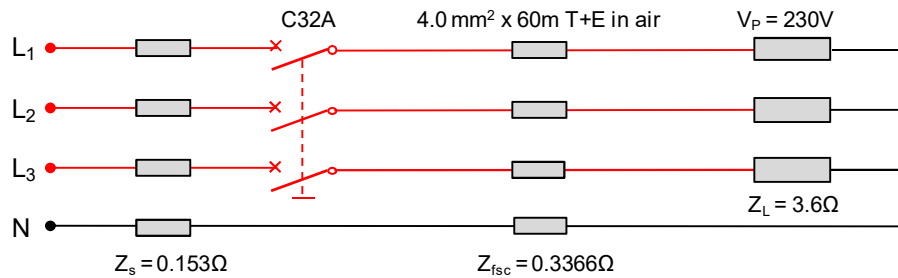

figure 3.
Figure 3 shows the same circuit in an overload condition. By adding more load in parallel to each phase, the circuit impedance has decreased from 7.2 to 3.6Ω. The cable impedance is still considered negligible. The circuit line current will increase to a value higher than the rated current of the cable (I_z).
1. Calculate the Line current (I_L) for the circuit shown in figure 3.